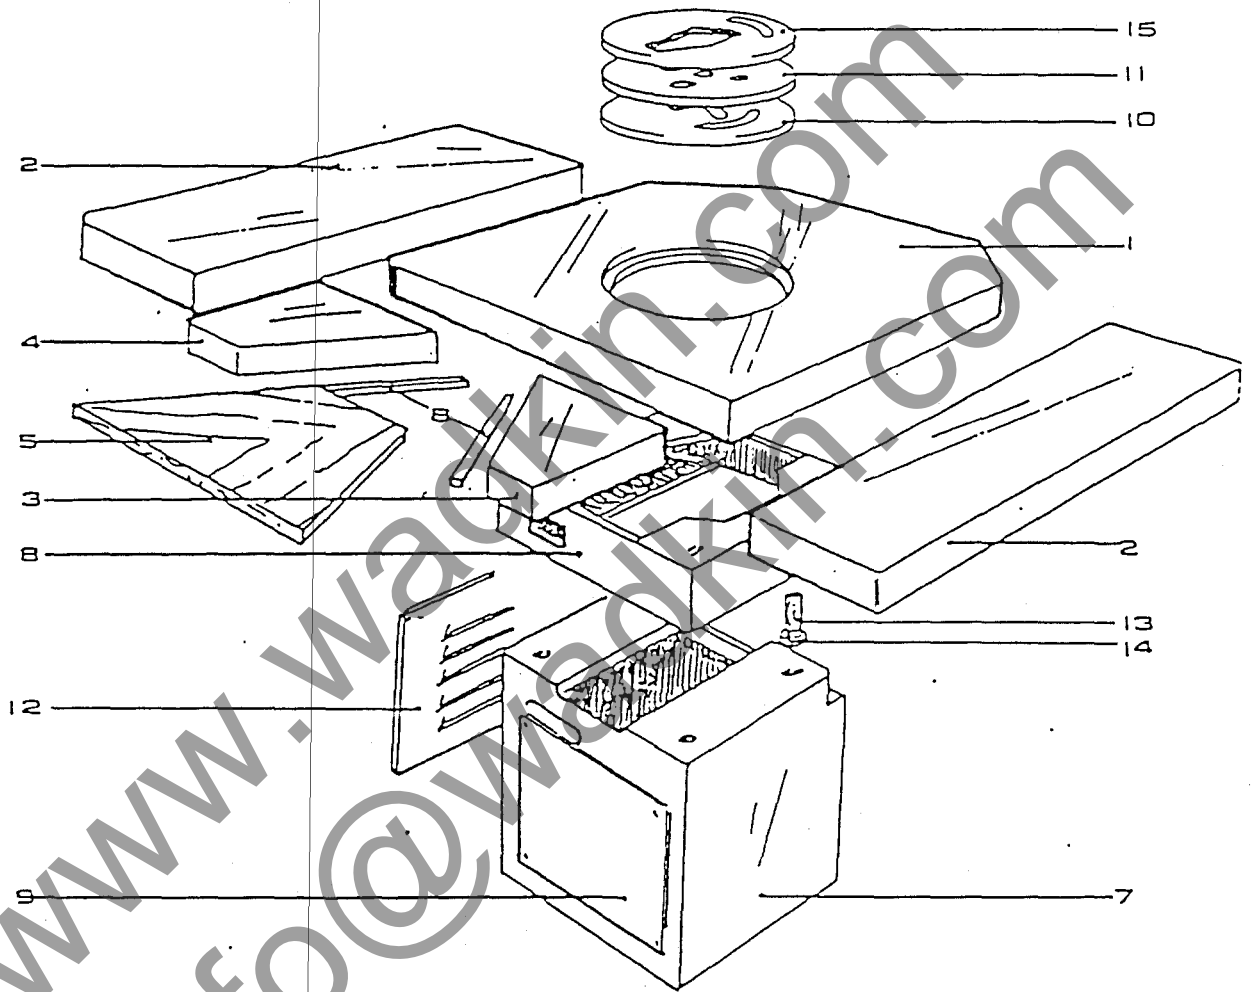

FIG. 28
8.7 AUTOMATIC FEED TABLE PARTS LIST MACHINE UX/1/A (See Figure 28)